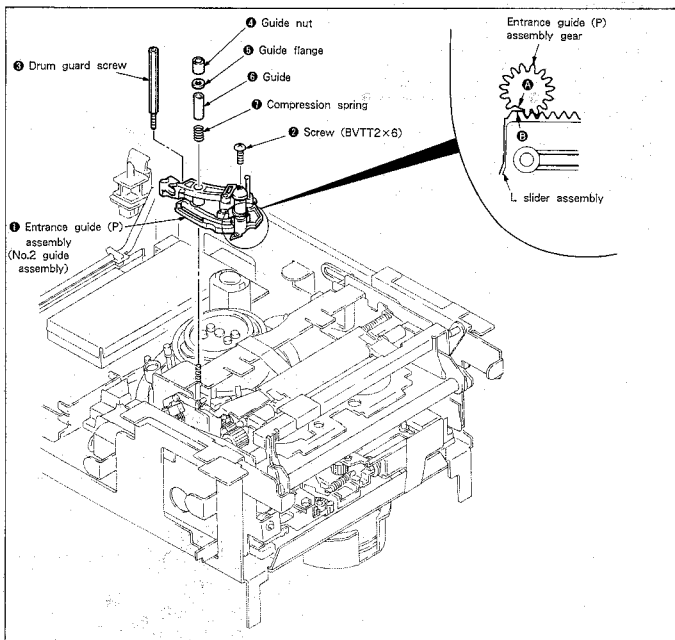

Fig. 7-29.
1. Removal (See Fig. 7-29.)
2. Mounting (See Fig. 7-29.)